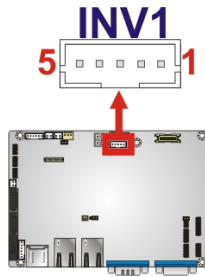

Figure 3-9: Backlight Inverter Connector
- CN Location:** See **Figure 3-9**